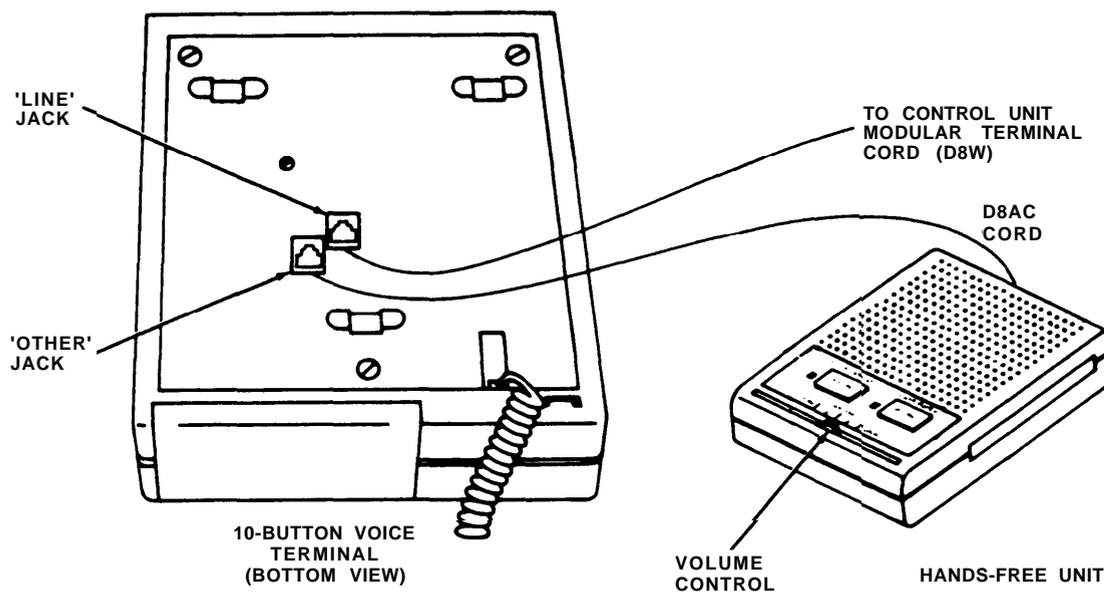

Figure 1
2. Using the D8AC Cord supplied with the HFU, connect one end to the rear of the HFU; remove the protective label covering the "OTHER" jack and connect the opposite end to the "OTHER" jack on the bottom of the voice terminal (see Figure 1).